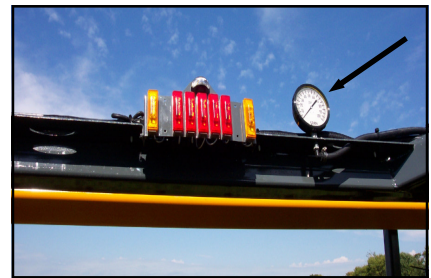

FIG. 49-1
**SOLUTION PRESSURE GAUGE**– The pressure gauge (fig. 49-1) gives the operator a constant visual display of the amount of solution being applied (measured in PSI). The pressure, as determined by the pulse width modulated control valve, will vary according to ground speed. If applying solution manually, the solution pressure gauge visually informs the operator of needed manual adjustments. The gauge also shows when there is a drop in pressure indicating that the solution tank maybe empty or there is a problem with the system.